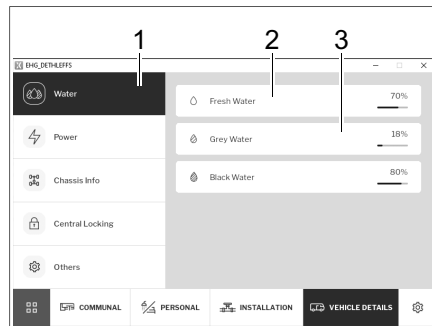

Fig. 278 Water supply
- Click on the *Water Supply* (Fig. 278,1) button. The fill level in the fresh water (Fig. 278,2) and waste water tank (Fig. 278,3) will be displayed in %.